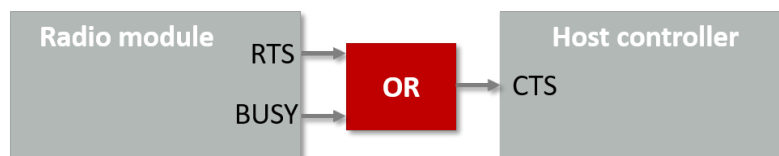

Figure 12: Transparent mode flow control
- **Flow control:** The Thyone-I implements additional *BUSY* pin to indicate that the module is busy doing radio tasks and hence cannot accept any more data on the UART. It is mandatory to implement the Thyone-I *BUSY* pin and enable the UART flow control on the host and Thyone-I, in order to prevent data loss on the UART (Figure 12). In the absence of this flow control scheme, the application must be able to accept/handle loss of data.